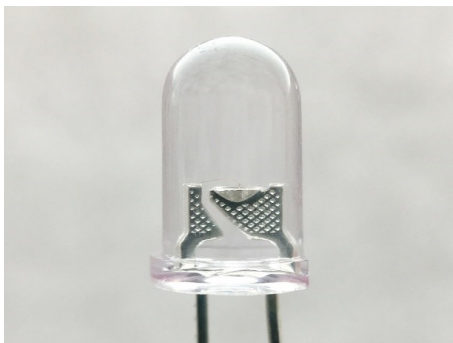

Figure 26: Internal View of an LED
- c. Observe the internal structure of the LED as shown in Figure 26